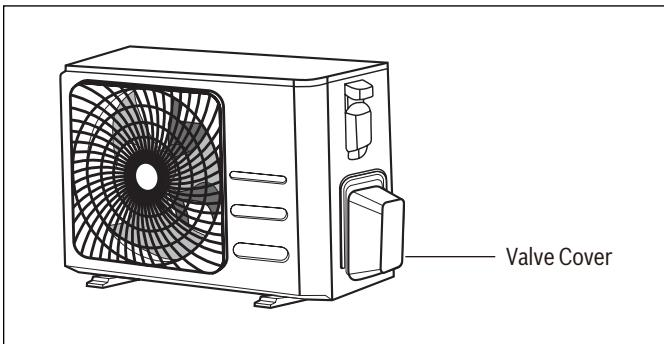

Figure 39
- Unscrew and remove the cover on the side of the outdoor unit. See Figure 39.